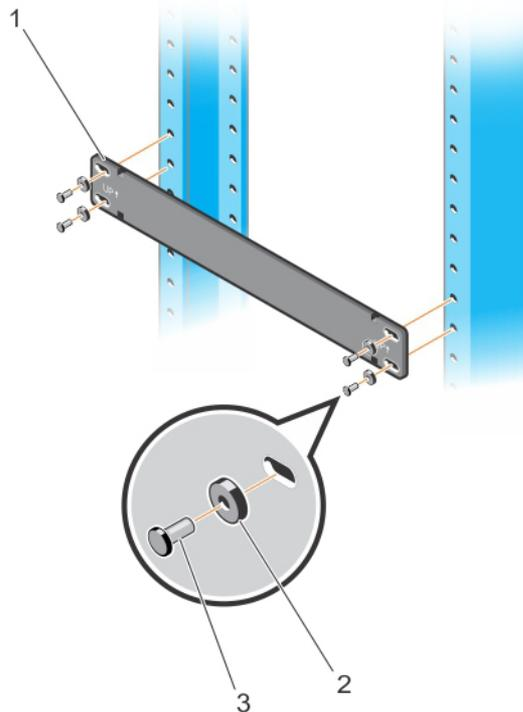

Figure 2. Installing a Rack Bar in a 2-Post Rack
Hold the rack bar (item 1 in Figure 2) so that the smooth side faces outward and the arrows point upward. Attach the bar to the front-rack posts using the mounting screws and washers provided with the rack bar (items 2 and 3 in Figure 2).
① NOTE: The installation procedure in this section describes how to install the C9010 in a 2-post rack using the rack bar provided in the base configuration package. For information about how to use Dell ReadyRails or a rack mount tray to install the C9010, follow the instructions in Installing Dell ReadyRails or Installing a Rack Mount Tray. Then continue with Step 4.